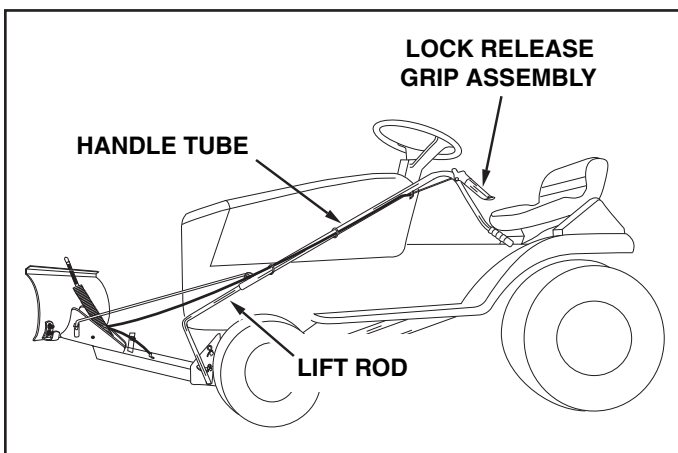

FIGURE 22
2. To unlock the blade, raise the blade to transport position. Push the lock release grip down against the handle tube to pivot the blade. Keep the grip depressed and push forward or pull back on the handle tube, sliding it along the lift rod. Release the grip to lock the blade when it is in either the right hand, the left hand or the straight ahead position. See figure 22.